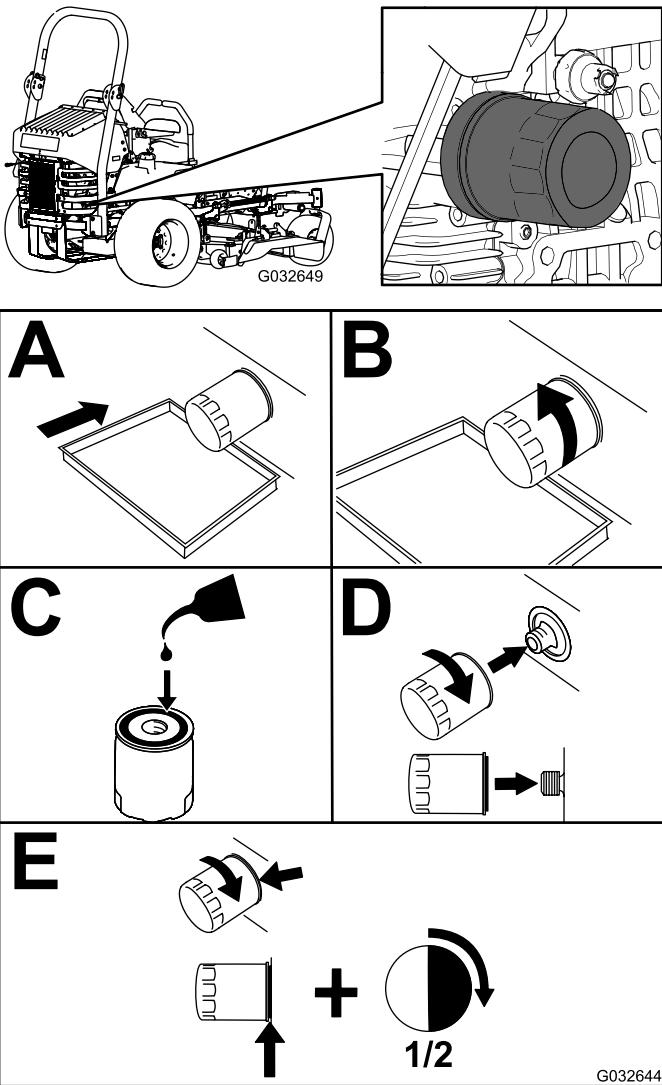

Figure 50
2. Change the engine-oil filter (Figure 50).